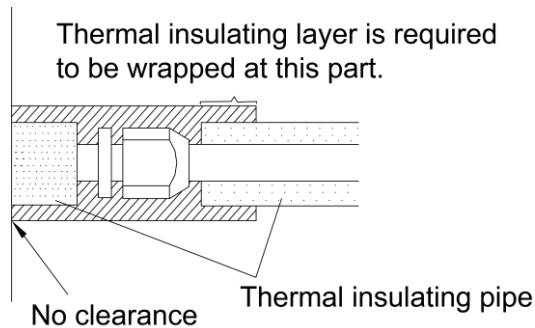

Fig.40
- 3) Joints at indoor and outdoor units should be wrapped with insulating material and leave no clearance between pipe and wall. See Fig.40.